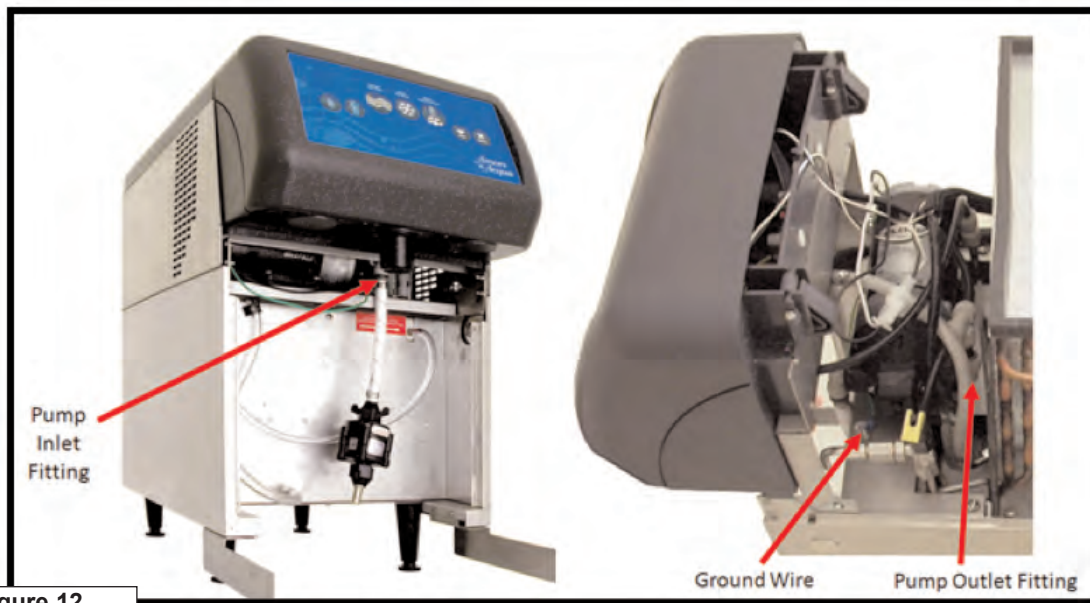

Figure 12
4. Disconnect inlet & outlet push-to-connect fittings (Fig 12).
5. Disconnect power harness and remove ground wire from ground stud, (Fig 12 & 13).